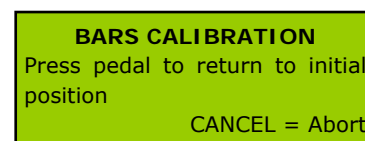

Figure 20
- Once the calibration is made, press the pedal to return to initial position. The information on Figure 20 will be then displayed.